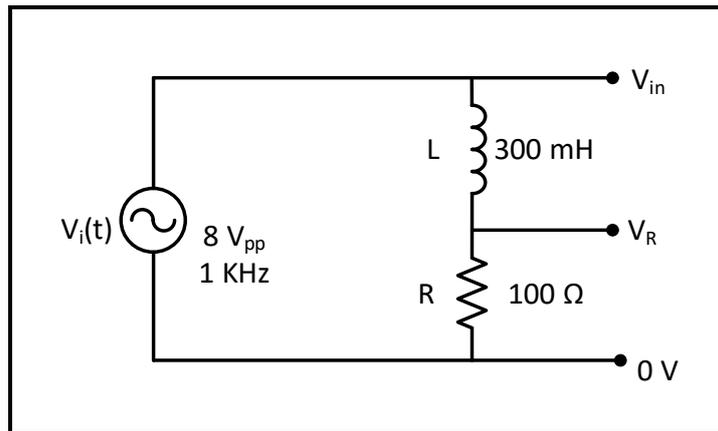

Figure 8.12
2. Repeat the same procedure in step 1 above for the circuit shown in Figure 8.12.
2. Connect the circuit in Figure 8.12, set V_{in} to sinusoidal voltage at $8 V_{pp}$ and $f = 1 \text{ KHz}$.